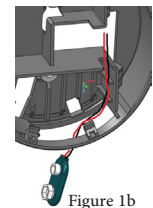

Figure 1b
- (d) Guide the 9V battery cable through the slot in the keypad housing. THE BATTERY CONNECTOR MUST BE ACCESSABLE FROM THE BATTERY DOOR BEFORE SNAPPING THE KEYPAD TOGETHER OR THE KEYPAD WILL BE INOPERABLE. Snap the keypad electronic assembly to the housing until evenly seated. (Figures 1b, 1c)